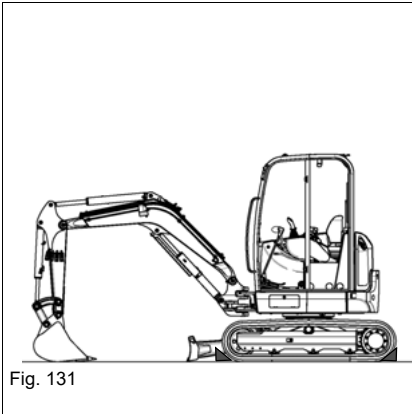

Fig. 131
10. Secure the vehicle with wheel chocks (see Fig. 131).